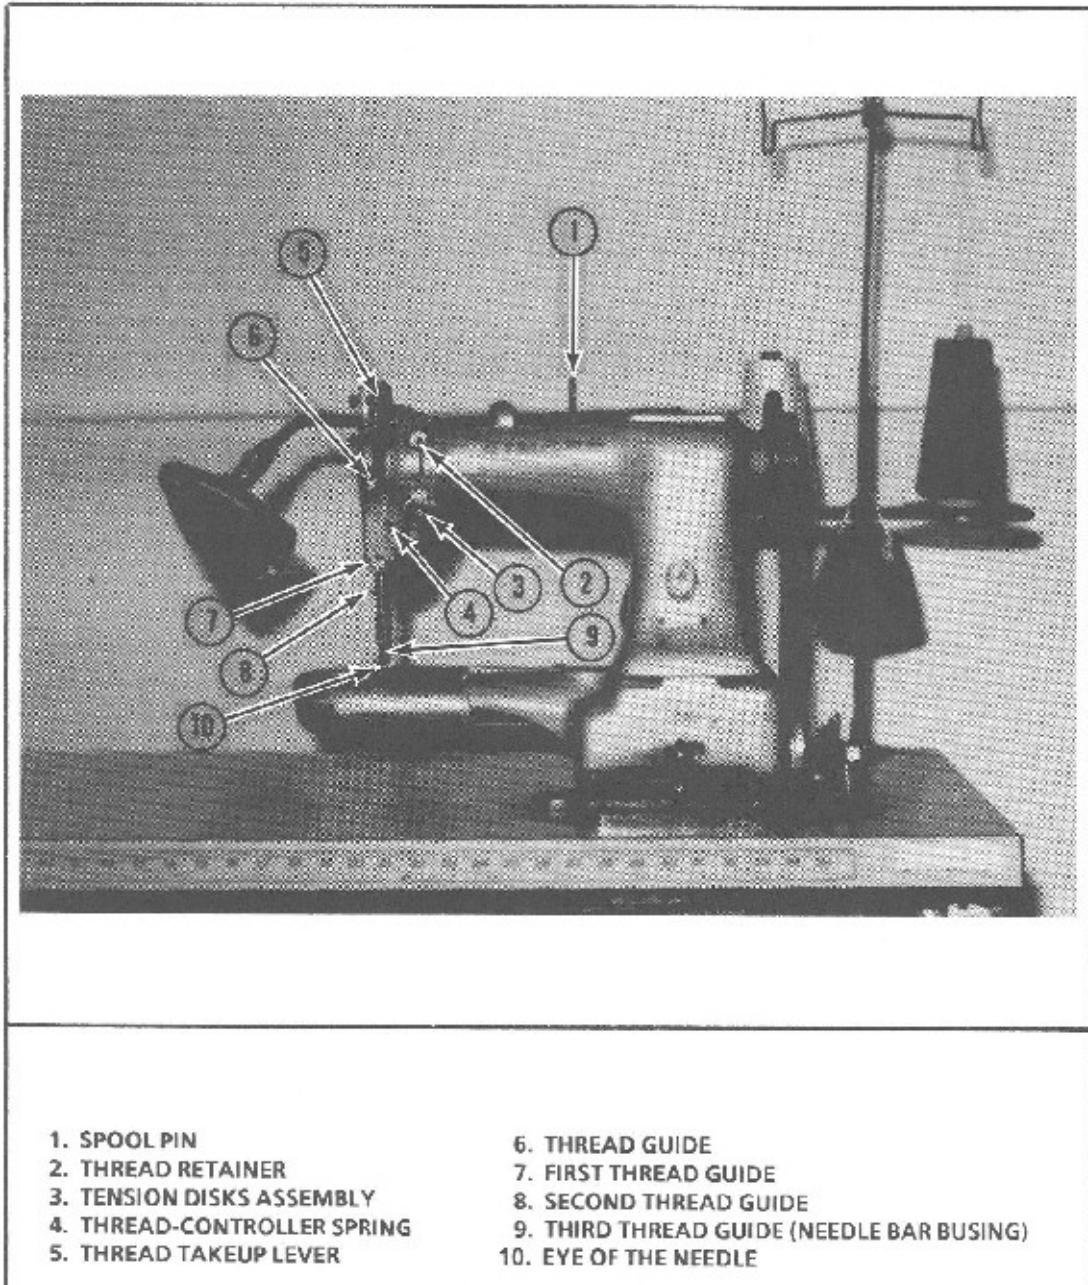

Figure 3-97
- (13) Pass the thread down from the first thread guide through the second thread guide on the needle bar thread guide.
- (14) Pass the thread down from the second thread guide through the needle bar thread guide. (See Figure 3-97)